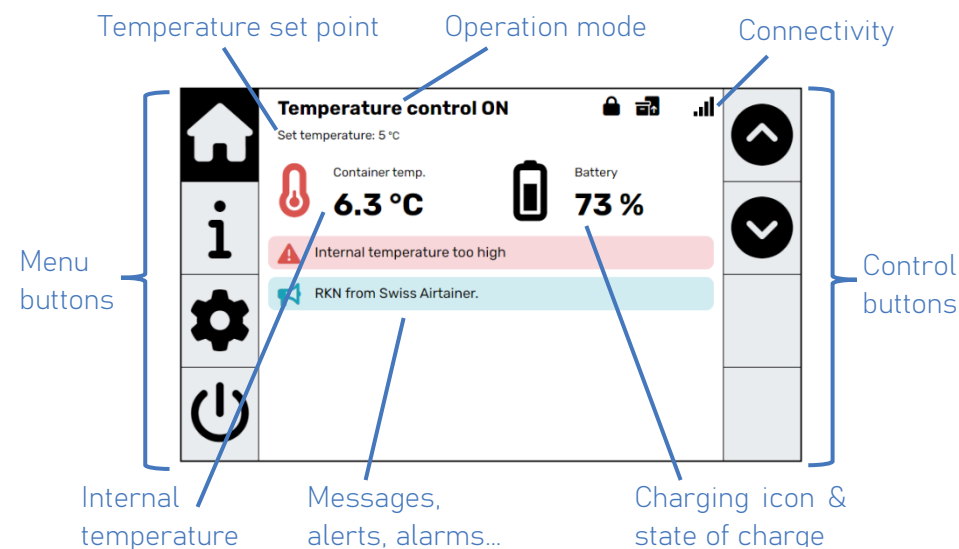

Figure 10 - HMI main page.
3. The main page will light up (**Figure 10**).